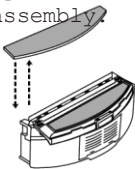
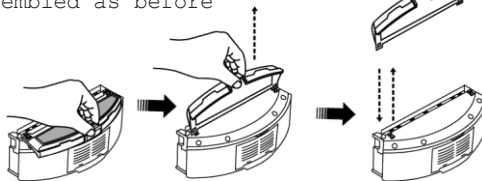

Figure 8
Figure 9
6. Reverse the dust bin, tear out the mop, release the trailing bar and then unplug the right and left fasteners on the bottom of the dust bin (Refer to Figure 8 and Figure 9). All parts should be assembled as before disassembly